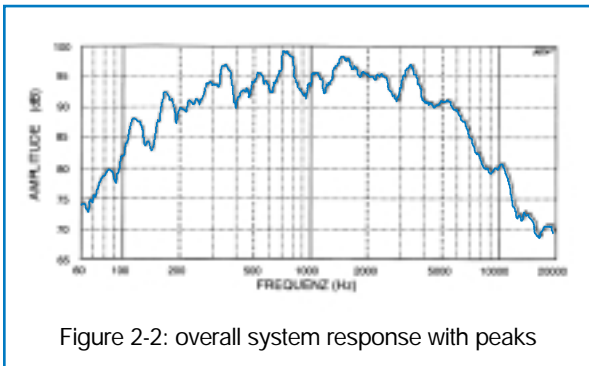

Figure 2-2: overall system response with peaks
**6. Reduce gain at feedback frequencies using notch filters (narrow equalizer filters).** Expect an increase in gain-before-feedback from 3 to 9 dB. Narrow peaks in the overall frequency response of the sound system are the first to cause feedback. These peaks rise 2 to 10 dB above the overall system response and prevent the system from reaching its maximum potential acoustic gain. (See Figure 2-2.) This technique can be done with a manual equalizer (and the appropriate measurement tools) or a feedback reducer. A digital feedback reducer can detect feedback and insert a notch filter at the exact offending frequency, which effectively flattens the sound system's frequency response and allows it to reach its maximum possible gain-before-feedback.